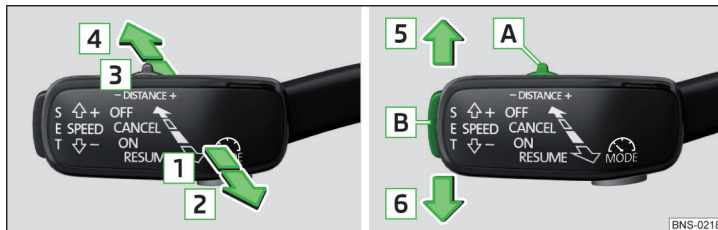

Fig. 298 Operating lever
Overview of ACC functions operated with the lever » Fig. 298
- Press the button **SET** » Fig. 298 on page 239 .
- **or:** Set the lever into the sprung position **RESUME** » Fig. 298 on page 239 .
- Set the lever into the sprung position **CANCEL** » Fig. 298 on page 239 .
The desired speed can be set or changed using the control lever » Fig. 298 on page 239.
› Set the switch **DISTANCE Adjust** in the spring-tensioned position – or + » Fig. 298 on page 239.
Acceleration can be cancelled at any time by touch on the brake pedal or pressing the button **CANCEL** on the lever » Fig. 298 on page 239.